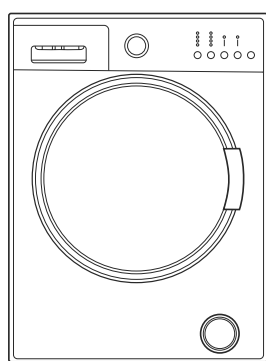

Figure 11
- 2 Pull the top of the pump filter cover forwards until the pump filter is fully exposed (see Figure 11(a)).
- 3 Turn the filter anti-clockwise until loose and remove by pulling (see Figure 11(b)).